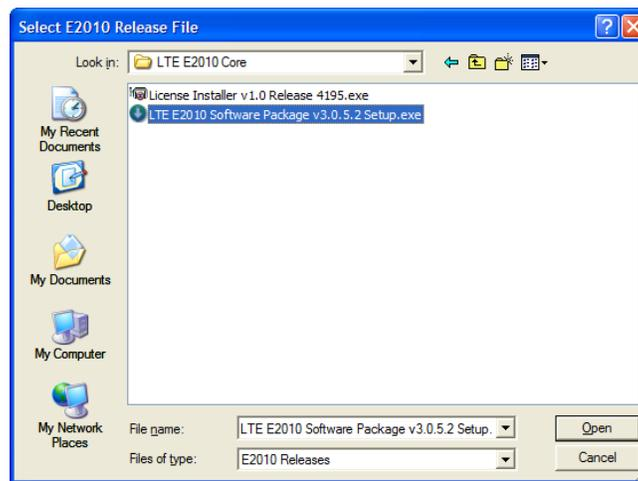

Figure 2-37: E2010 Software File
2. Click the **Download** button. Navigate to the <CS8 Interactive Tester>\E2010 Embedded PC\LTE E2010 Core folder. Select the **LTE E2010 Software Package v3.0.5.2.exe** file and click **Open**, as shown in Figure 2-37.